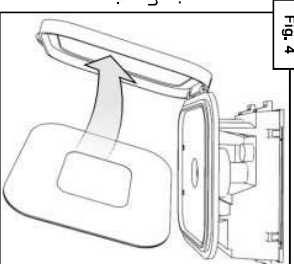

Fig. 4
11. Install LED panel in place of the existing glass (Fig. 4). Re-install clips and screws to secure the LED panel into the lens frame.